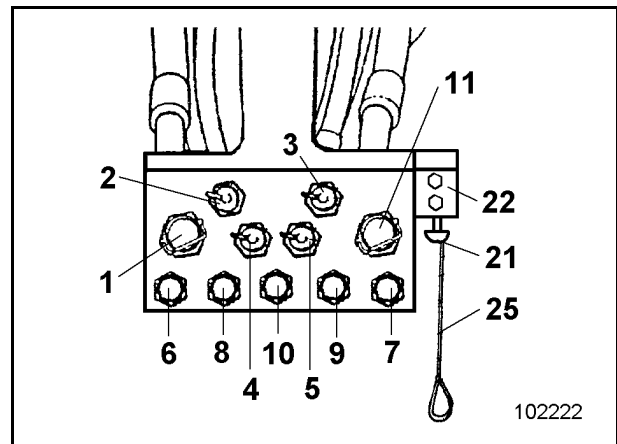

Fig. 3-15:
- express coupling (8, Fig. 3-15:) for the lefthand engine
- express coupling (9) for the righthand engine.